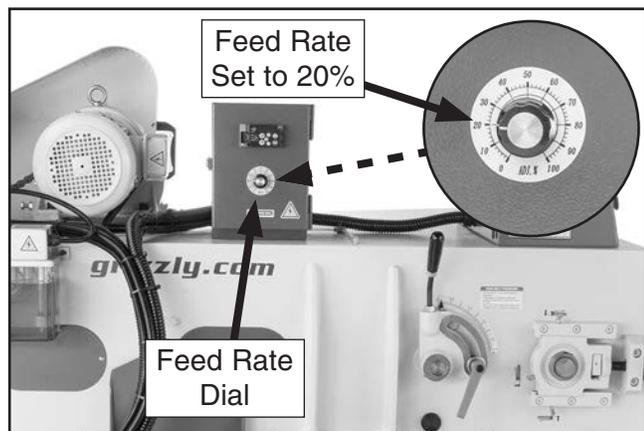

Figure 31. Location of feed rate dial.
11. Turn feed rate dial to 20% (see **Figure 31**).